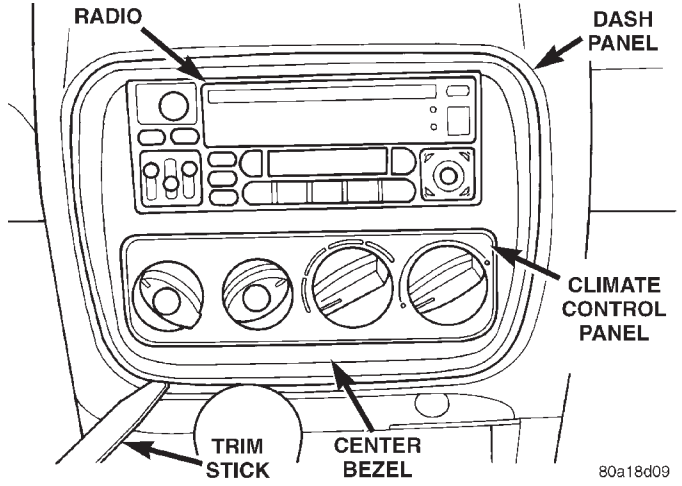

Fig. 5 Center Bezel
NOTE: When removing the center bezel, only use a soft tool such as a trim stick (Fig. 5) to pry the center bezel from the dash panel. Use of a hard tool will damage dash panel.
(5) Remove center bezel surrounding radio and climate control panel from top cover of dash panel (Fig. 5).